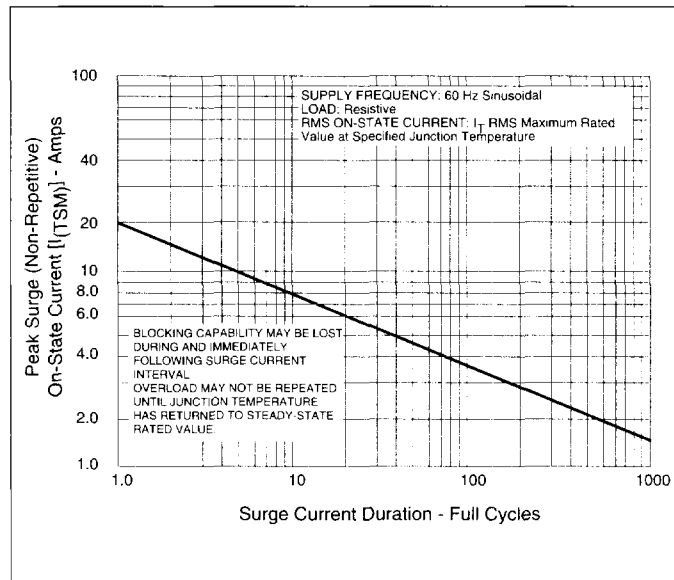

Figure 9.1 Peak Surge Current vs Surge Current Duration
- (5) See Figure 9.1 for more than one full cycle rating.
- (6) $R_{\theta JA}$ for TO-202 Type 23 and Type 41 is $70^\circ\text{C}/\text{watt}$.
- (7) $T_C \leq 80^\circ\text{C}$ for TO-92 Sidac and $T_C \leq 100^\circ\text{C}$ for TO-202 Sidacs.